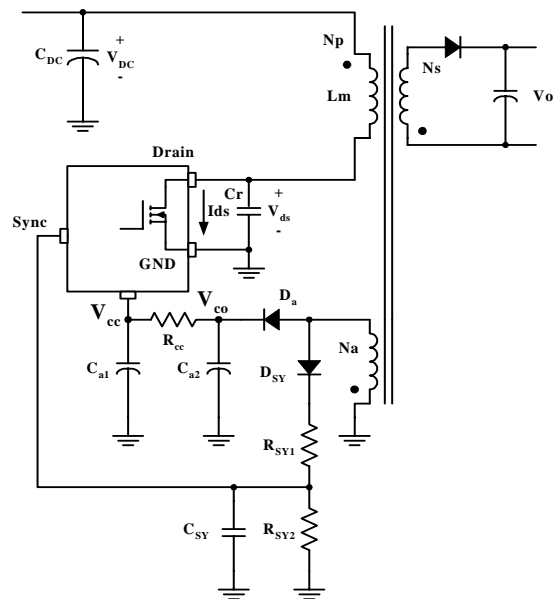
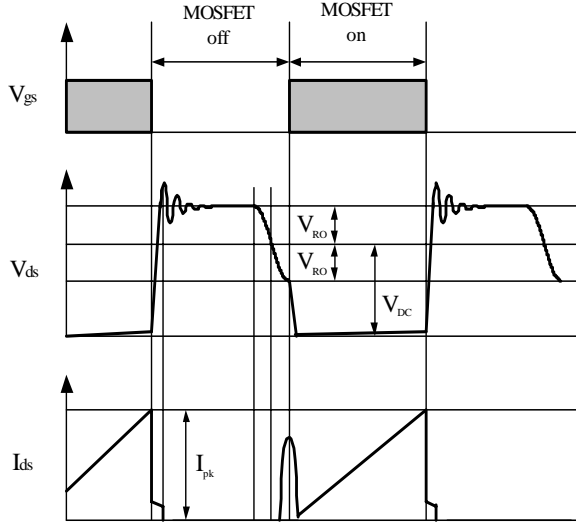
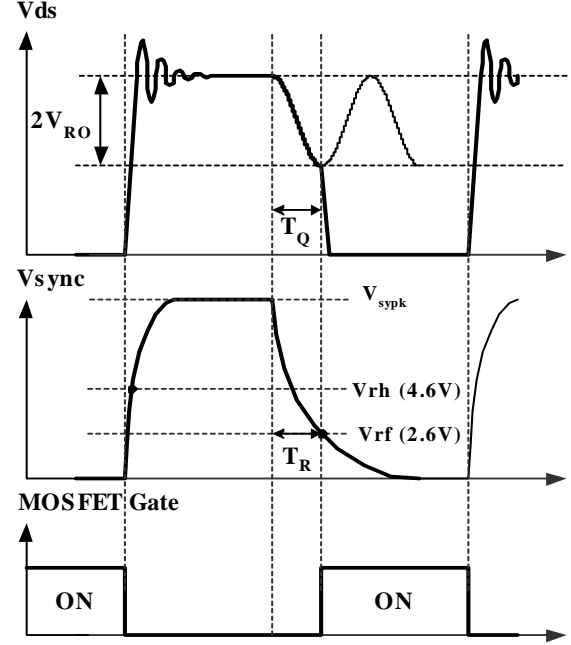

Figure 6. Synchronization circuit
Figure 7. Quasi-resonant operation waveforms
Figure 8. Normal quasi-resonant operation waveforms
2. Synchronization : FSCQ0765RT employs quasi-resonant switching technique to minimize the switching noise and loss. In this technique, a capacitor (C_r) is added between the MOSFET drain and source as shown in Figure 6. The basic waveforms of quasi-resonant converter are shown in Figure 7. The external capacitor lowers the rising slope of drain voltage to reduce the EMI caused when the MOSFET turns off. In order to minimize the MOSFET switching loss, the MOSFET should be turned on when the drain voltage reaches its minimum value as shown in Figure 7.
The minimum drain voltage is indirectly detected by monitoring the Vcc winding voltage as shown in Figure 6 and 8. The voltage divider R_{SY1} and R_{SY2} should be chosen so that the peak voltage of sync signal (V_{syk}) is lower than the OVP voltage (12V) in order to avoid triggering OVP in normal operation. It is typical to set V_{syk} to be lower than OVP voltage by 3-4 V. In order to detect the optimum time to turn on MOSFET, the sync capacitor (C_{SY}) should be determined so that T_R is the same with T_Q as shown in Figure 8. The T_R and T_Q are given as, respectively